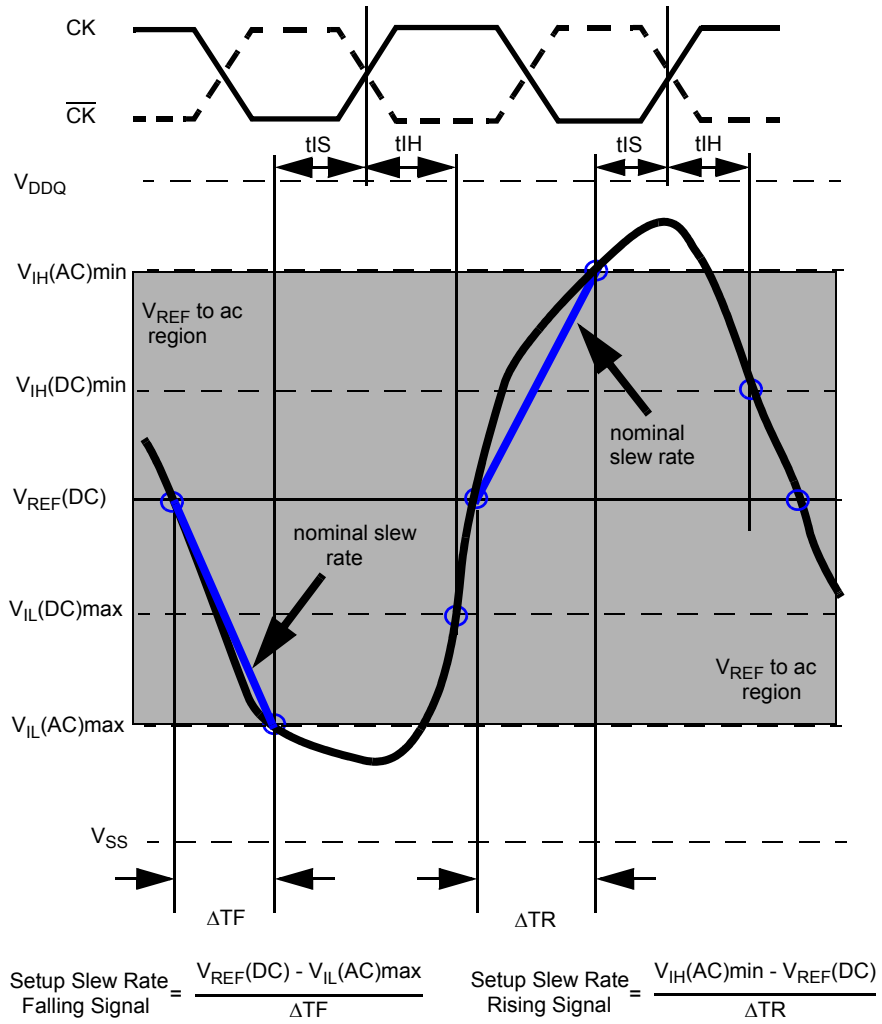
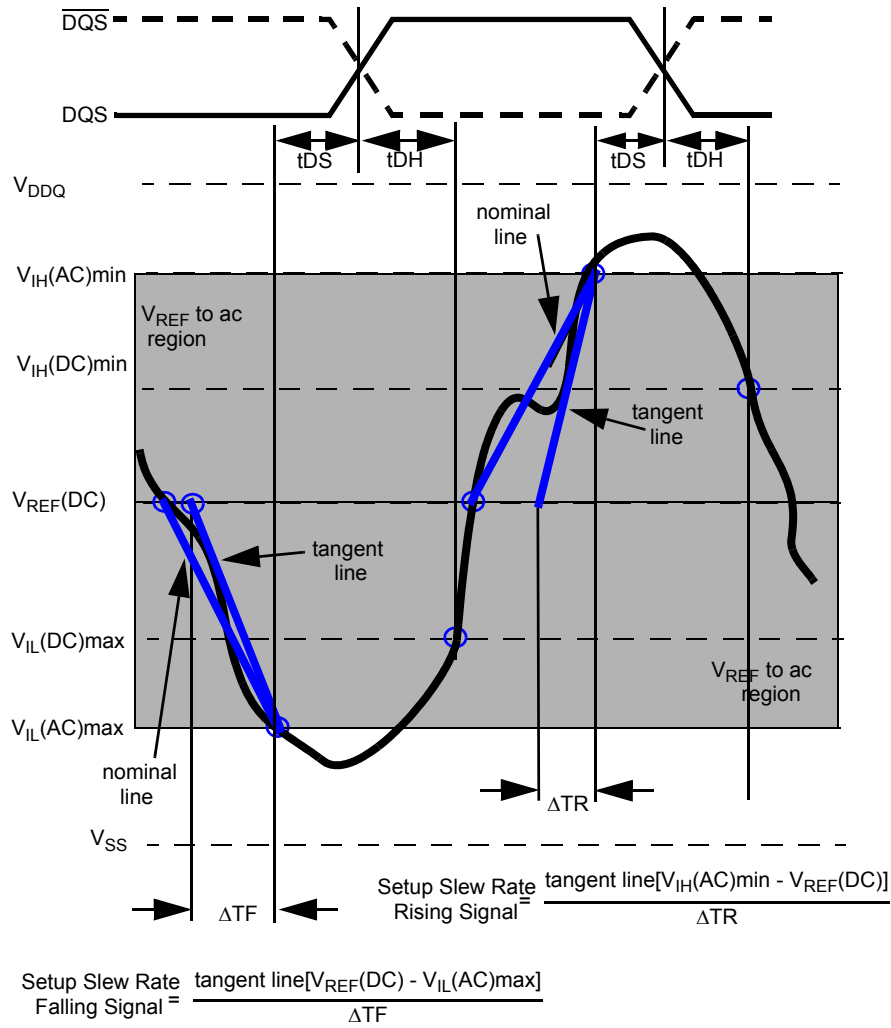

Figure 15. Illustration of nominal slew rate for  $t_{IS}$
Figure 16. Illustration of tangent line for tIS
Setup (tIS) nominal slew rate for a rising signal is defined as the slew rate between the last crossing of VREF(DC) and the first crossing of VIH(AC)min. Setup (tIS) nominal slew rate for a falling signal is defined as the slew rate between the last crossing of VREF(DC) and the first crossing of VIL(AC)max. If the actual signal is always earlier than the nominal slew rate line between shaded 'VREF(DC) to ac region', use nominal slew rate for derating value (see Figure 15). If the actual signal is later than the nominal slew rate line anywhere between shaded 'VREF(DC) to ac region', the slew rate of a tangent line to the actual signal from the ac level to dc level is used for derating value (see Figure 16).